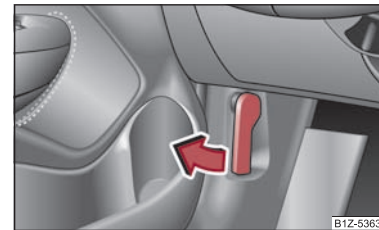

Fig. 12 Bonnet release lever
- Pull the unlocking lever below the dash panel on the driver's side ⇒ fig. 12. ■